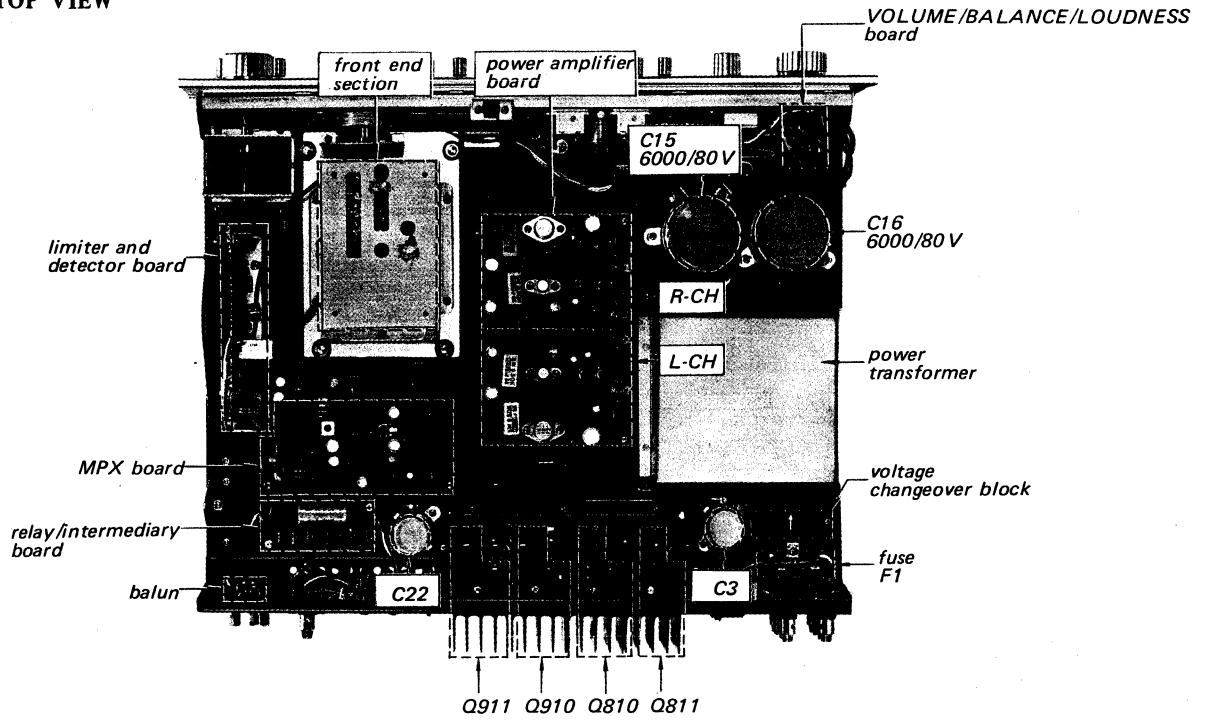

*Fig. 2-18 Rivet replacement*
2. Bore out the rivets using a drill bit slightly larger in diameter than the rivet. See Fig. 2-18.